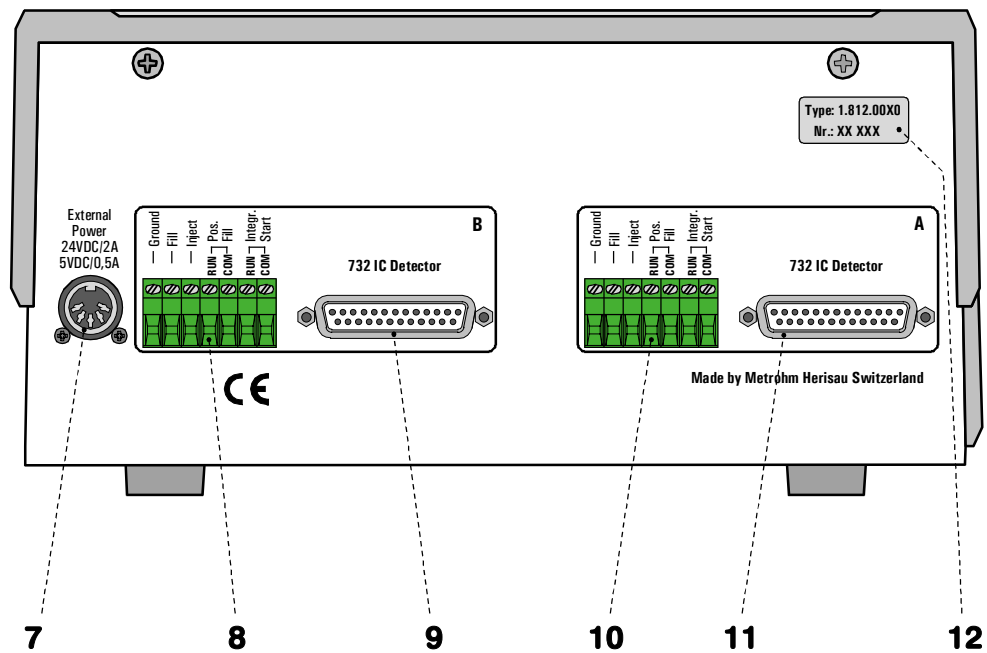

Fig. 2: Rear of 812 Valve Unit
The cable permanently mounted to the power supply unit is plugged into connection **7** at the 812 Valve Unit (see *Fig. 2*). The operational readiness is shown by the LEDs lighting up on the "FILL" or "INJECT" keys.
- Connect the plugs inscribed with "**GND**", "**INJECT**" and "**FILL**" of the 6.2128.100 cable to the connections "**Ground**", "**Fill**" and "**Inject**" on the terminal block **10** of the 812 Valve Unit (see *Fig. 2*).
- Connect the plugs inscribed with "**GND**", "**INJECT**" and "**FILL**" of the 6.2128.100 cable to the connections "**Ground**", "**Fill**" and "**Inject**" on the terminal block **8** of the 812 Valve Unit (see Fig. 2).
- Connect the 6.2115.070 cable to the connections "**Integr. Start - RUN**" and "**Integr. Start - COM**" on the terminal block **10** (valve A) or **8** (valve B) of the 812 Valve Unit (see Fig. 2).